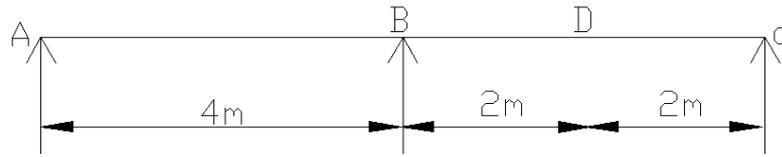

Fig.3
- b) Draw the influence line diagram for the bending moment at D, the middle point of BC, of a continuous beam shown in Fig.3 Summarize the ordinates at 1m interval.